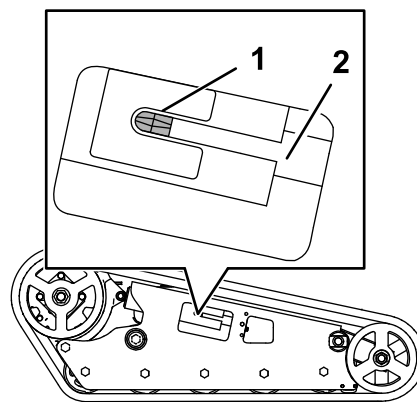

Figure 67
15. Turn the tensioning screw counter-clockwise until the tensioning screw bottoms out (Figure 67).